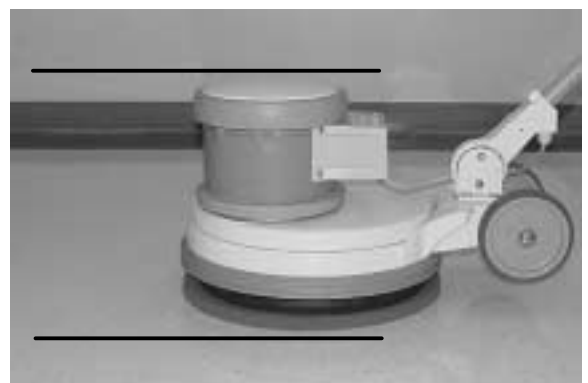

FIG. 11
- Before starting the machine, hold the handle so the machine base is parallel to floor (Figure 11). This will reduce the abrupt jolt when starting the machine.